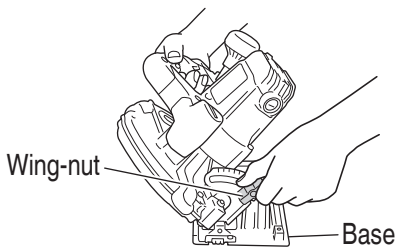
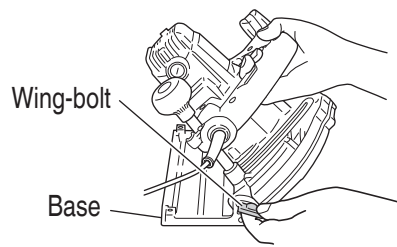
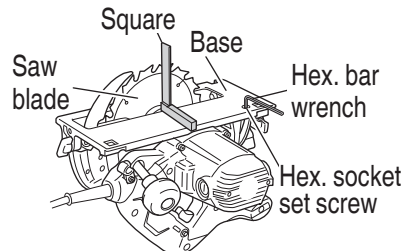

Fig. 5
Fig. 6
Fig. 16
As shown in **Fig. 5**, **Fig. 6** by loosening the wing-nut on the incline gauge and the wing-bolt on the base, the saw blade may be inclined to a maximum angle of 45° in relation to the base. After having completed the adjustment, reconfirm that the wing-nut and the wing-bolt are firmly tightened.
- (1) Turn the base face up (**Fig. 16**) and loosen the wing-nut and wing-bolt (**Fig. 5, 6 on page 24**).
- (2) Apply a square to the base and the saw blade and turning the hex. socket set screw with a hex. bar wrench, shift the position of the base to produce the desired right angle.